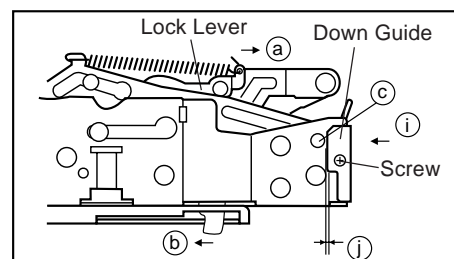

Figure 5. Lock lever section
- (1) Set the unit to the EJECT mode, and let the housing stand upright. Or set the unit to the STANDBY mode, press the lock lever in the arrow direction, and let the housing stand upright. (See Fig. 5: in the direction (a) or (b)) (When pushing in the direction (a), slightly lift the housing by hand to release the lock lever.)
- (2) Remove the four screws (2) and take out the down guide (3).
- (3) Slide the two link support shafts (c) and the two roller shafts (d) to the round openings (g) on their respective slide chassis slits (two at (e) and two at (f)).
- (4) Deflect the roller shafts (d) a little inward to get them out of the round openings (g) on the slide chassis. (Be careful not to deform the inner links.)